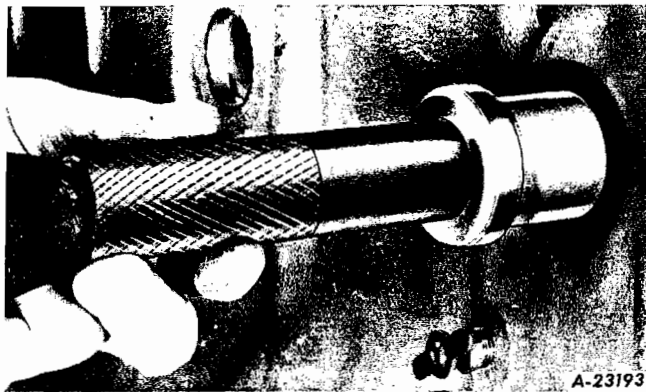

Fig. 51 - Installing core plug using SE-1725 installing tool with SE-1581-B handle.
1. Remove all old gasket material from block. Clean both inside and outside of block with steam or cleaning solvent. Remove all dirty oil, sludge, scale, and carbon from cylinder block. Check core plugs for indication of leakage. Remove and replace plugs that show signs of leaking, or rusting through. Use installing tool for core plug replacement (Fig. 51).